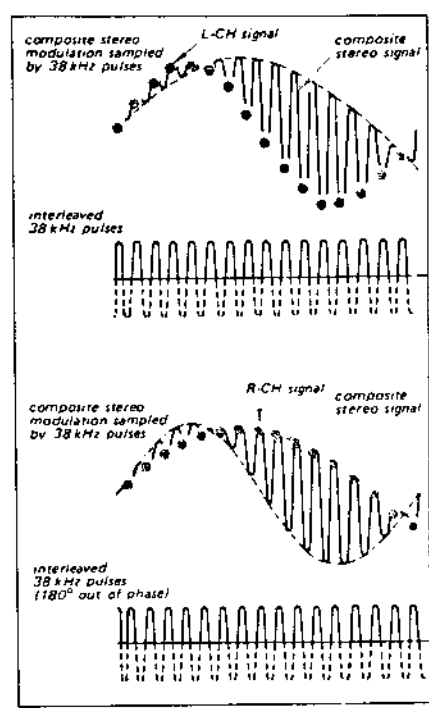

Fig. 1-7. Stereo demodulation operation
circuit through limiter for sampling drive operation. "L" and "R" components are developed at the switching circuit and supplied to the terminals ⑪ and ⑫ respectively. Stereo demodulation principle is shown in Fig. 1-7. RT201 controls separation.